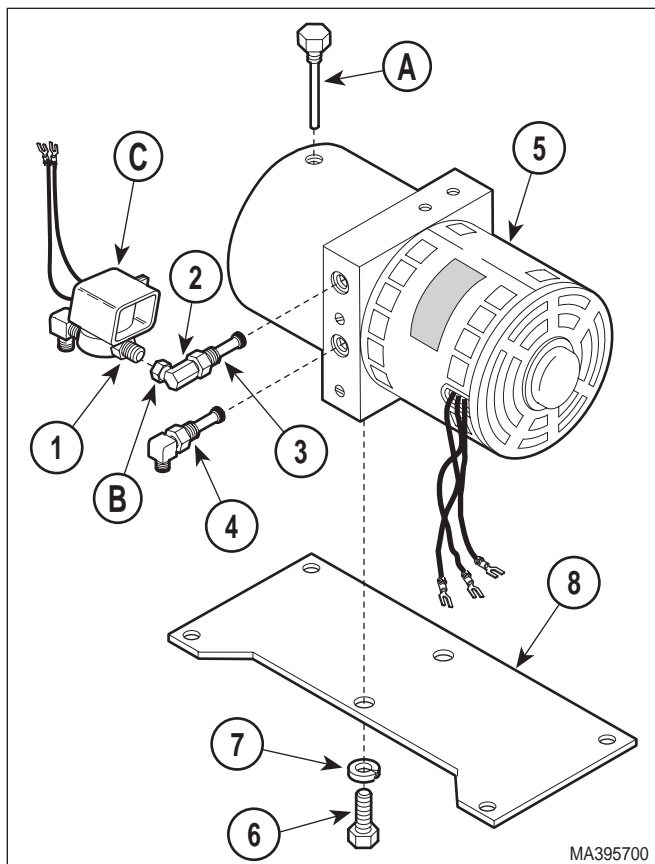

Figure 4-9. Motor Pump Removal / Installation
- (4) Using a wrench to hold male connector (1, Figure 4-9) stationary, loosen jam nut (B) of elbow (2). Disconnect male connector/anti-cavitation solenoid valve (C) from elbow.
- (5) Remove down functions shuttle valve (3) and up functions shuttle valve (4) from motor pump (5).
- (6) Remove two screws (6), lockwashers (7), and motor base (8) from motor pump (5).